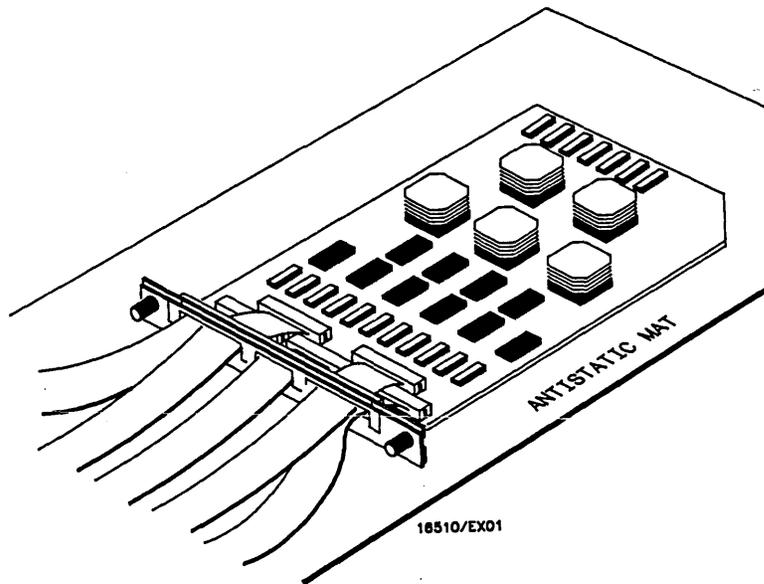

Figure 6-14. Card On Antistatic Mat
- e. Lay card on antistatic mat with cable(s) flat and pointing out to rear of card. See figure 6-14.